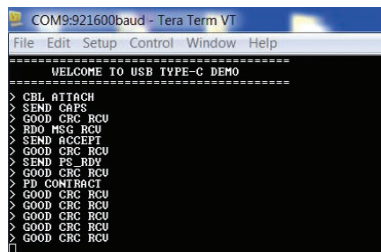

Figure 4: PD Transaction on terminal
7. See PD transaction on the Tera term terminal (iCE40LP8K-USBC-EVN only). Refer Figure 4 for the status.